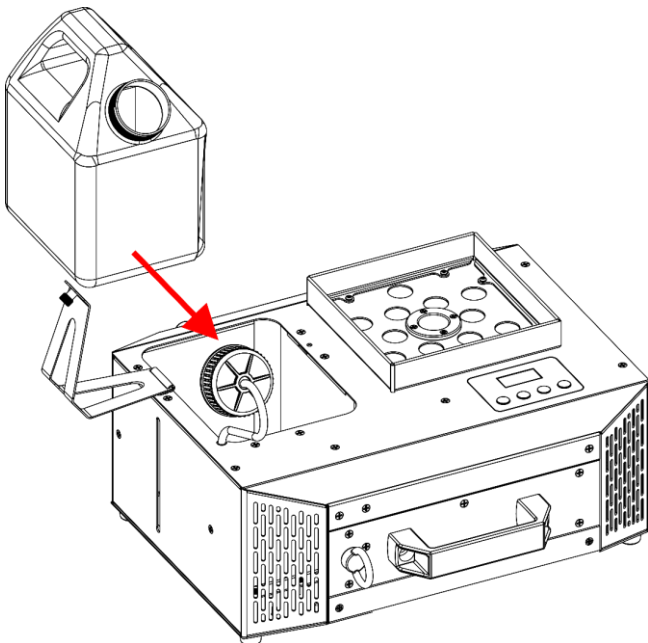

Fig. 44
- 09) Put the **fluid tank (02)** back in the device, as shown in Fig. 44.